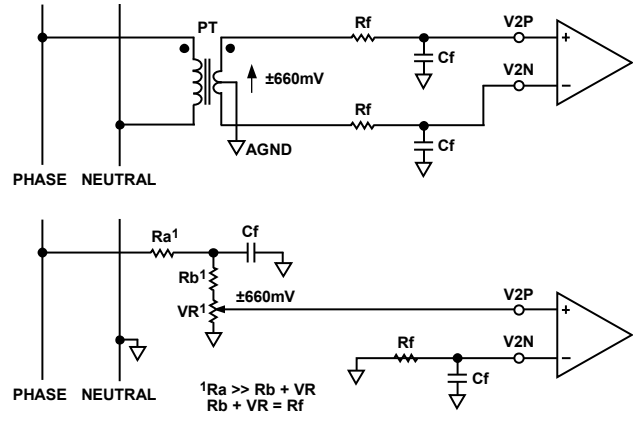

Figure 27. Typical Connections for Channel 2
Figure 27 shows two typical connections for Channel 2. The first option uses a potential transformer (PT) to provide complete isolation from the power line. In the second option, the ADE7755 is biased around the neutral wire, and a resistor divider provides a voltage signal that is proportional to the line voltage. Adjusting the ratio of  $R_a$ ,  $R_b$ , and  $V_R$  is also a convenient way of carrying out a gain calibration on the meter.